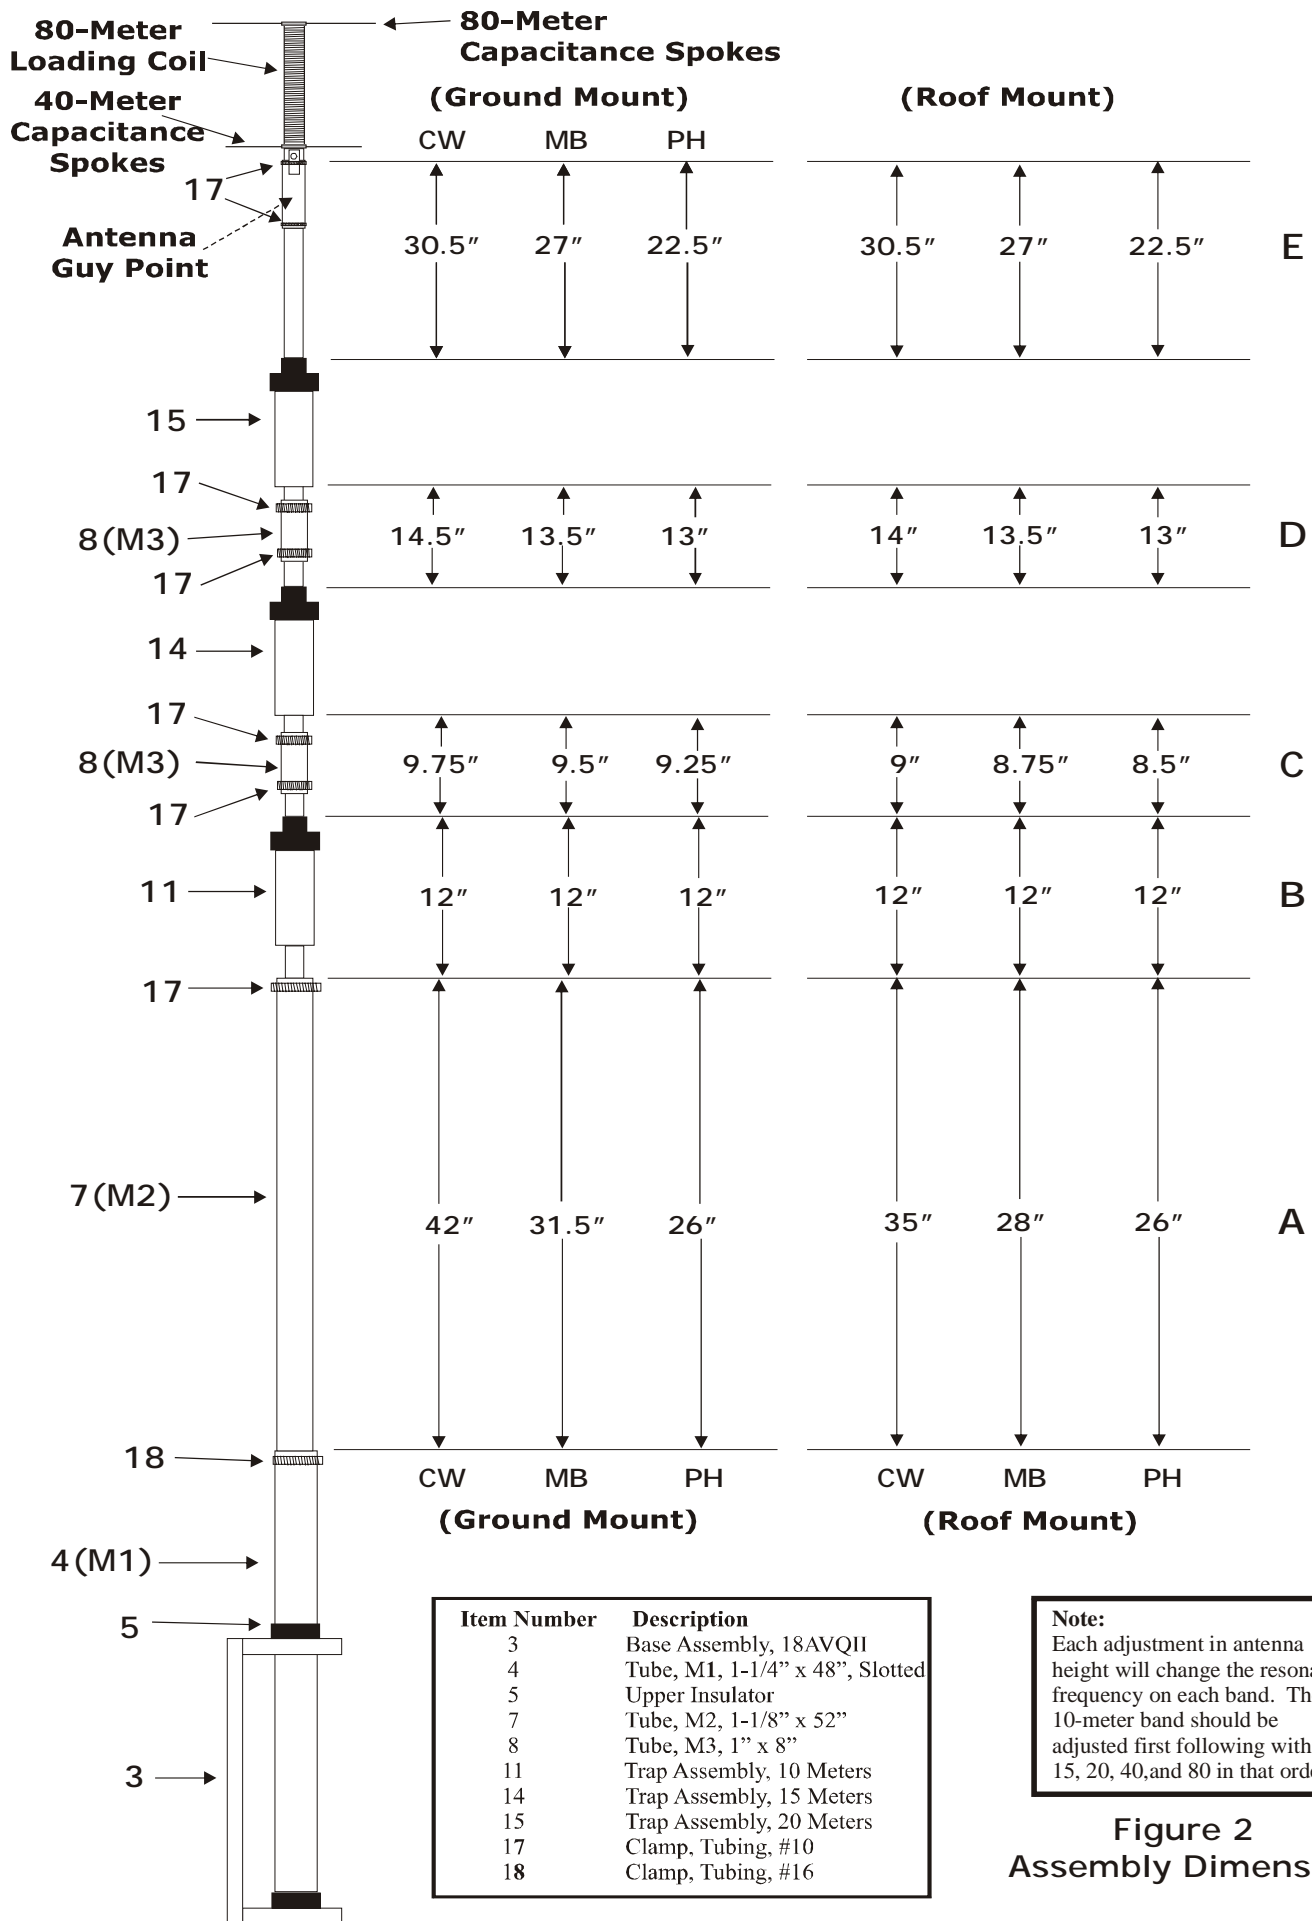
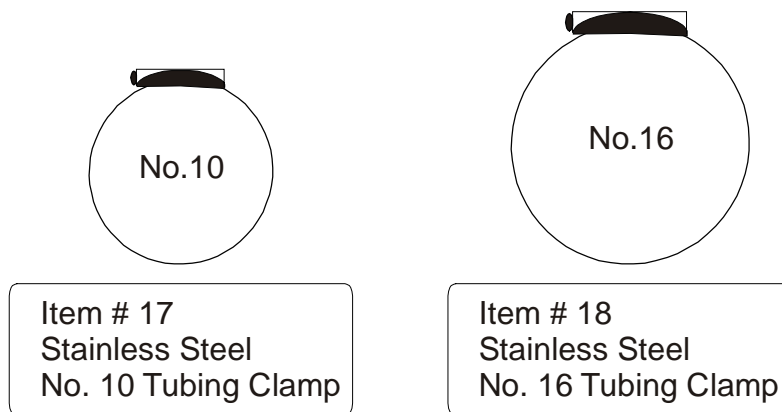

Figure 2
Figure 3
Important: This antenna must be guyed for support. Non-conducting U-V proof guy rope (not included) should be secured between the tubing clamps (item #17) located below the 80-meter loading coil shown in Figure 2. The ends of the guys should be sufficiently anchored to the ground with stakes or another sturdy support.
Before you begin, read the instructions and study the illustrations. Compare the parts against the Parts List at the end of this manual. Decide where to mount your antenna (rooftop or ground) and what mode of transmission you will use (Phone, CW or Mid-Band). Take special notice of the dimensions in Figure 2. Dimensions will vary from one installation location to another due to ground conditions and other factors. The dimensions in Figure 2 are approximate and should be used as a reference for initial setup.
CAUTION: All of the antenna dimensions must be set on the mode chosen - all CW, all mid-band or all phone. Mixing dimensions in an attempt to improve another mode on certain bands will affect the resonance of all traps physically higher. Refer to Figure 2.
Select the proper size tubing clamps as shown in figure 2. When installing the clamps, place the clamp near the tube end with the top of the clamp over the slot in the tube as shown in Figure 3. After adjustment of the tubing lengths, tighten the clamp with a 5/16-inch nut driver, socket, or open-end wrench until the tubing will not twist or telescope. DO NOT over-tighten!
Put a #16 tubing clamp (Item No. 18), un-tightened, over the M1 section (Item No. 4) (the base is attached to it already). Slip the 1 1/8" x 52" M2 section (Item No. 7) into the top of the M1 and set the M2 at dimension 'A', as shown in Figure 2. Dimension 'A' should be determined by the operating position and frequency. Slide the clamp into place around the top of the M1 and tighten it just enough to keep the M2 from slipping. It will be fully tightened later.
Put an un-tightened #10 Tubing clamp (Item No. 17) over the M2 section, then slip the 10-meter trap (Item No. 11), bottom first, into the M2 section. (There is a plastic cover on the top of all three traps.) Set the trap at dimension "B", as shown in Figure 2. Slip the clamp into place around the top of
Place two, un-tightened #10 tubing clamps (Item No. 17) over one of the 1" x 8" long M3 section (Item No. 8). Slide the M3 section part way over the upper end of the 10-meter trap, then slide the lower end of the 15-meter trap (Item No. 14) into the M3 section. Set dimension "C", as shown in Figure 2, and locate the M3 so that it is equally spaced between the two traps. Tighten the clamps around the ends of the M3 just enough to keep parts from slipping. They will be fully tightened later.
Assemble this section using the remaining M3 (Item No. 8) as was done on the 15 Meter trap and M3 Section Assembly. Use two more #10 tubing clamps (Item No.17) to attach the 20-meter trap (Item No.15) above the 15-meter trap. Refer to Figure 2 for choosing dimension "D".
Place the 1 1/8" x 17 tubing section of the fully assembled 80-Meter loading coil onto the top of the 20-Meter trap assembly (Item No.15). Set the 80-Meter loading coil dimensions "E" using figure 2. Then secure it using the tubing clamp installed in the previous section. Tighten the clamp being careful not to over-tighten it.
6. The resonant frequency of the 40-meter band is adjusted by increasing or decreasing dimension "E" of Figure 2. Once the resonant frequency is found on the 40-meter band, the SWR can be minimized by adjusting the capacitance spokes in step 7.